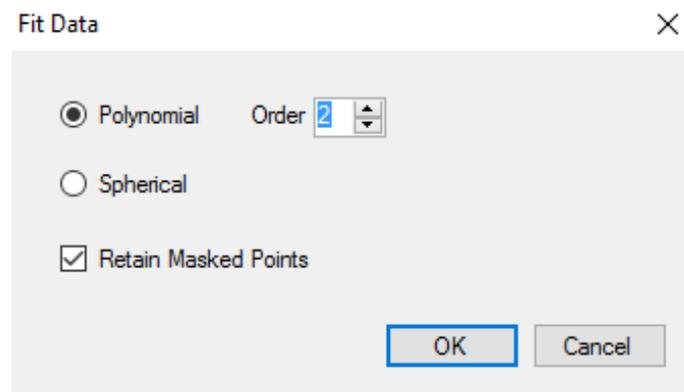

Figure 5.2 Fit Data Dialog
- Fit Data...** Opens a dialog where a polynomial fit can be calculated based on the data set. See **Figure 5.2**. Alternatively, if physical dimensions are assigned to the phase image, a spherical fit can be calculated.